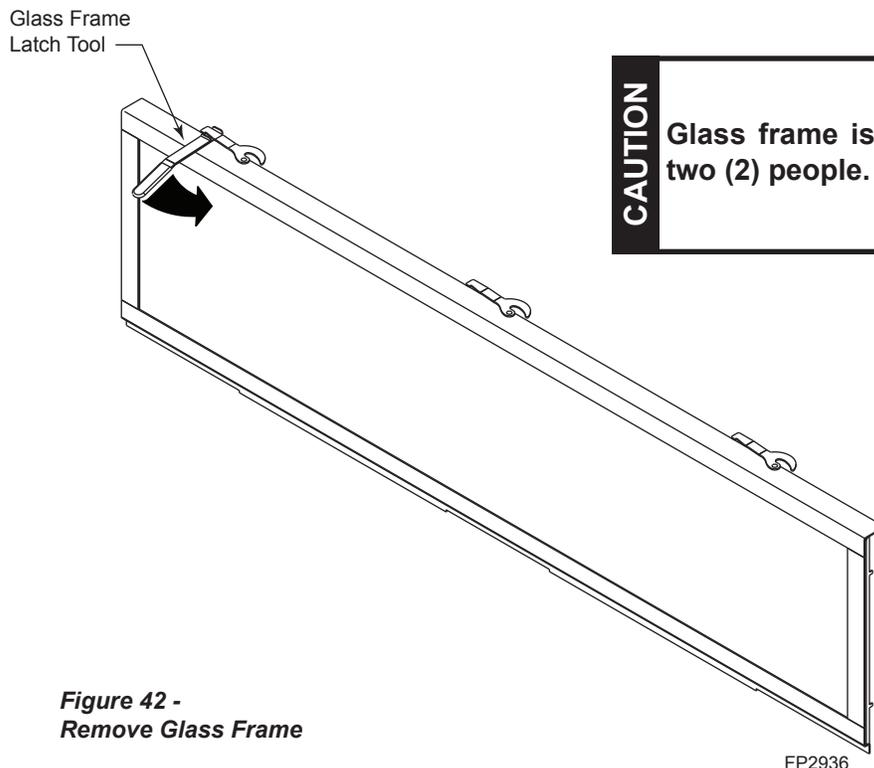

Figure 42 -
1. Remove the glass door. Use glass door latch tool packed with unit to unlatch the three (3) frame latches. *Page 29, Figure 42.* **NOTE:** Glass door is heavy; an assistant may be necessary.